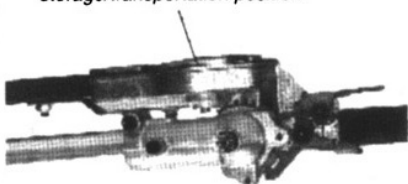

Figure 2
2. Using the procedures described on the previous page, rotate the cutter assembly so it is parallel to the tube. Make sure the latch lock and the latch release return securely to a locking position. See Figure 2.